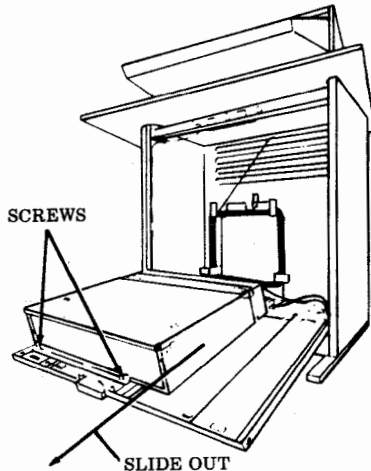

Fig. 42
Step 1 — Slide tabs inward and open panel carefully. Remove two screws and slide module out (Fig. 42).